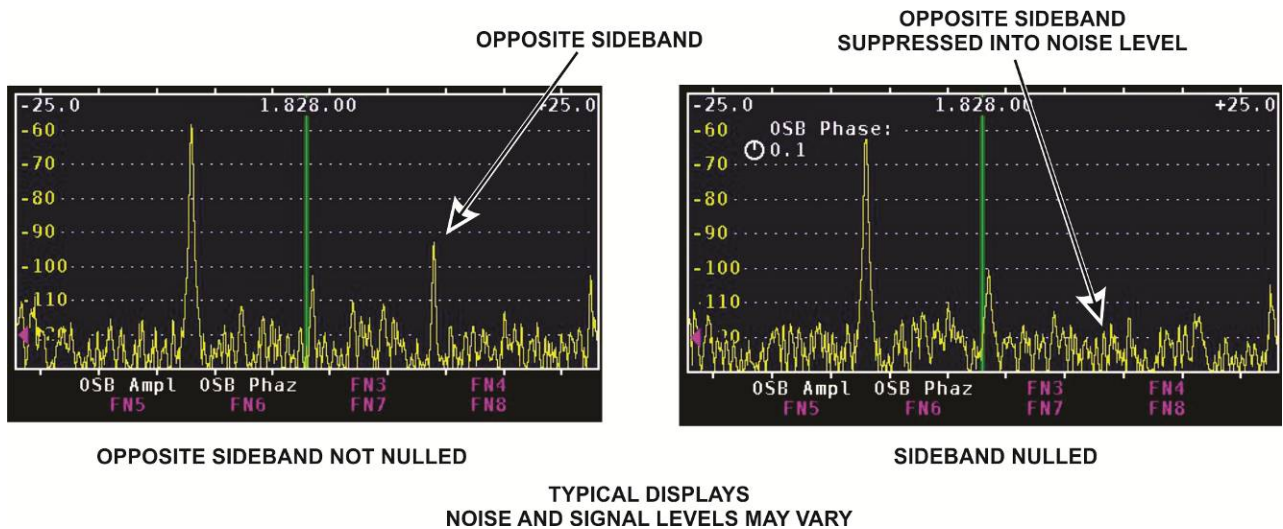

Figure 19. Typical Opposite Side Band Signal Displays.
- Switch your KX3 to 160 meters and tune to a frequency 10 kHz *above* that of the signal generator. That is, if your signal source is at 1.818 kHz, tune the KX3 to 1.828 kHz. You should see a strong signal to the left of the center cursor and, if the opposite sideband is not completely suppressed, you will see a weaker signal the same distance to the right of the center cursor (see Figure 19). The weaker signal to the right is the opposite sideband. If you are using the internal PX3 signal source, adjust the coupling to the KX3 antenna input as needed for an easily visible signal level.